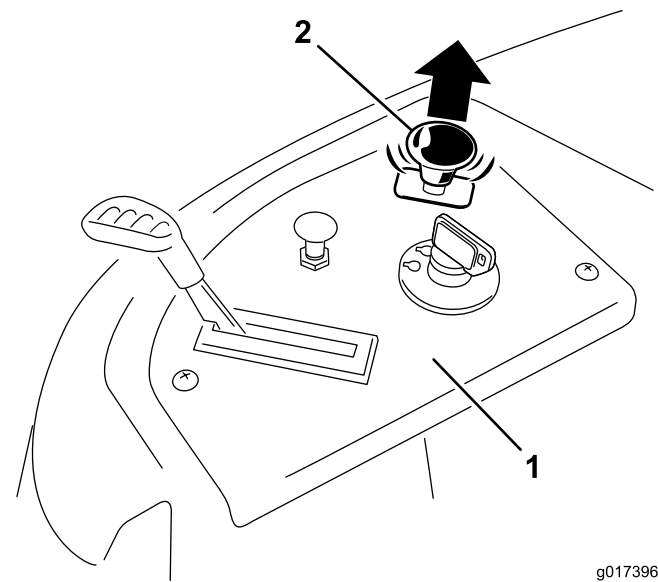

Figure 17
3. Pull up on the blade control switch to move it to the On position and engage the blades (Figure 17).